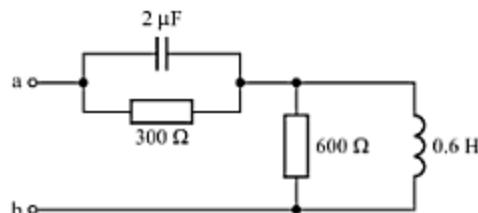

Fig. C-46
- C-43.** Find  $Z_{ab}$  for the circuit shown in Fig. C-46 if  $\omega$  is equal to (a) 800 rad/s, and (b) 1600 rad/s.